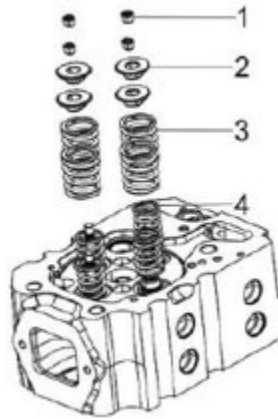

Figure 72. Valve Spring Assembly
5. Place the cylinder head on the workbench with the combustion side down to install the valve springs. Install the valve springs (Figure 72, Items 3 & 4) and the spring retainers (Figure 72, Item 2).
7. Insert the valve keepers (Figure 72, Item 1) and slowly release the tension of the valve spring.